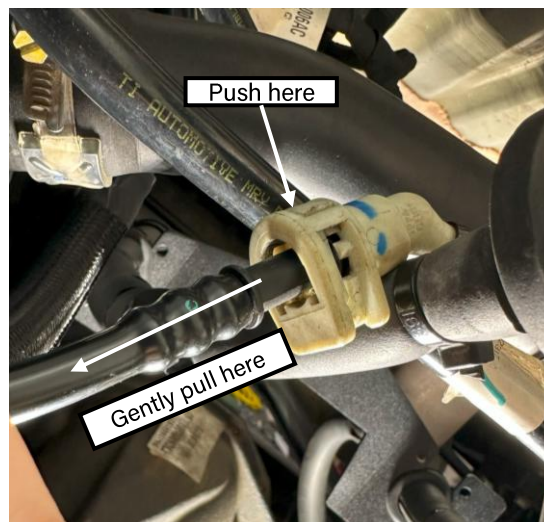

Figure 7: Filler breather clip disconnect
- ❑ Remove the filler breather by removing the blue, plastic retaining clip and gently pushing down on the spring clip on the opposite side (Figure 7)